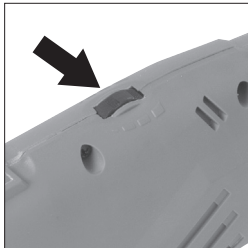

Fig. 10
- The speed control dial (**Fig. 10**) is located forward of the 'ON/OFF' switch. Rotate this control dial to alter the speed of the motor.